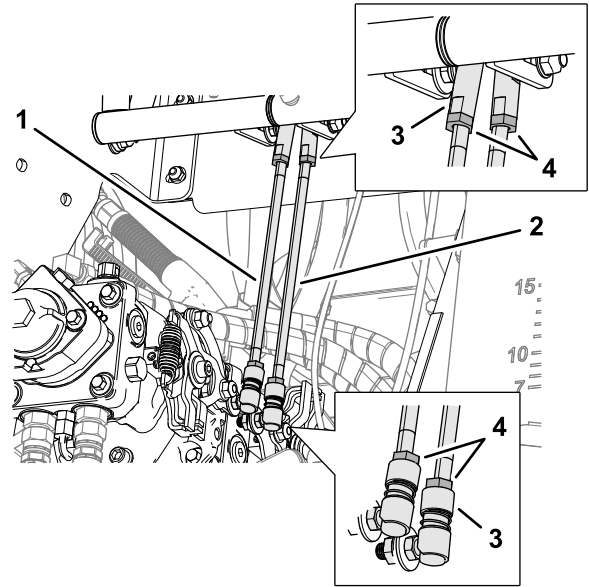

Figure 97
5. Loosen the 2 jam nuts that secure the motion-control rod at the upper and lower ball joints (Figure 97).
7. Tighten the jam nuts (Figure 97).